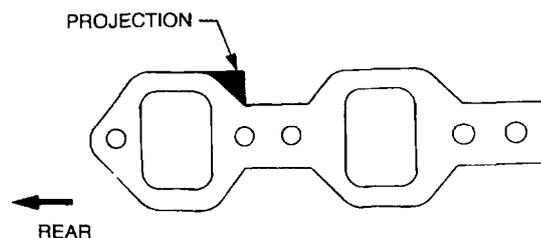

Figure 20 Inlet Manifold Gasket Installation
- f. Position the cylinder head so that the inlet manifold ports are uppermost. Position a new inlet manifold gasket on the cylinder head with the gasket projection uppermost and toward the rear of the engine (Figure 20).